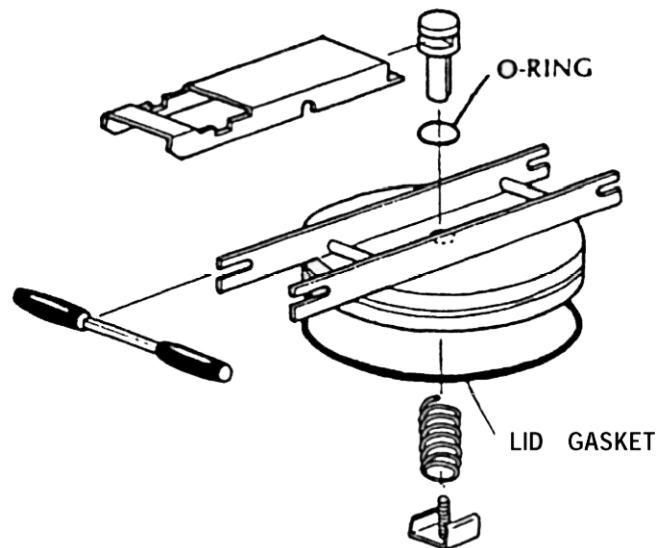

FIGURE 29
16. Remove lid from fryer and disassemble components as shown in (FIG. 29) Wash all lid parts at sink and dry with towel. Lubricate 'O'ring with cooking oil and reassemble lid. Tighten retainer hand-tight. (**NOTE:** Flat end of spring faces retainer). See Note on page 20 regarding gasket care.